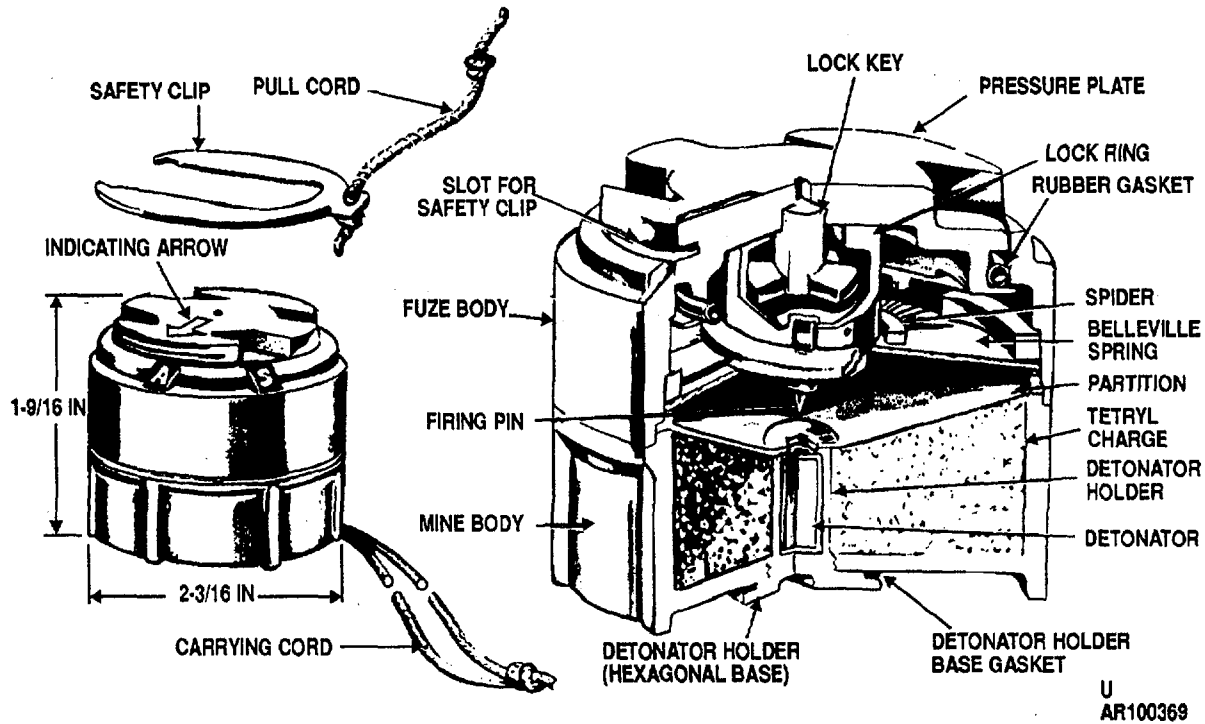

Figure 2-1. Cutaway view of mine, antipersonnel, nonmetallic (NM): M14, with integral fuze.
2-1. Mine, Antipersonnel, Nonmetallic (NM): M14, with Integral Fuze (Fig. 2-1)
(1) Mine is capable of inflicting a serious casualty, as it explodes on direct contact.